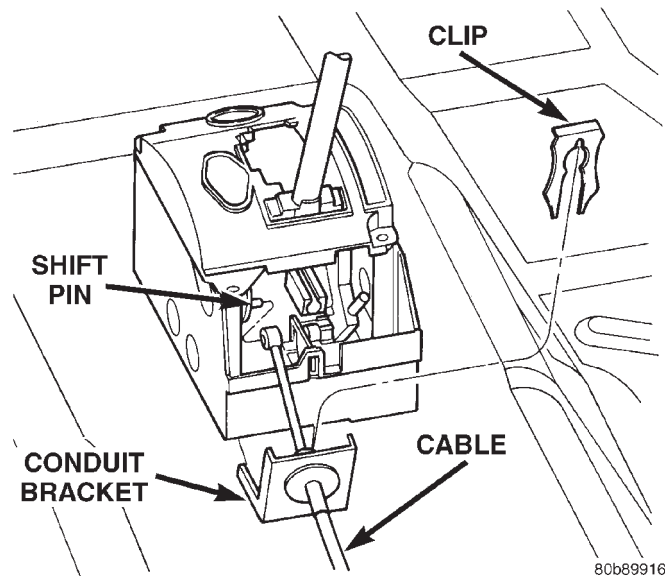

Fig. 15 Gearshift Cable at Floor Shifter Assembly
- (1) Disconnect battery and isolate cable.
- (2) Remove the gearshift knob set screw and knob.
- (3) Remove console assembly. Refer to Group 23, Body.
- (4) Using a flat blade pry tool, remove the shifter cable end from the gearshift pin (Fig. 15).
- (5) Pry the cable retaining clip up and off of the gearshift mechanism. Remove the gearshift cable from the gearshift mechanism (Fig. 15).
- (2) Install gearshift cable into conduit bracket and onto shift pin. Install retainer clip (Fig. 15).